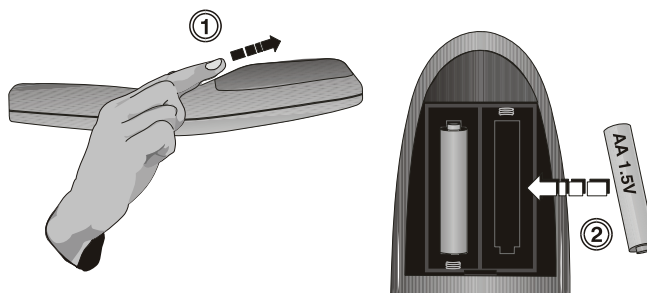

Figure 4.1. Replacing Batteries
1. Open the battery compartment at the backside of the keypad by placing your thumb in the oval depression and sliding the cover out about ½ inch. See Figure 4.1. Remove the old batteries and properly discard. Wait a minute or two.